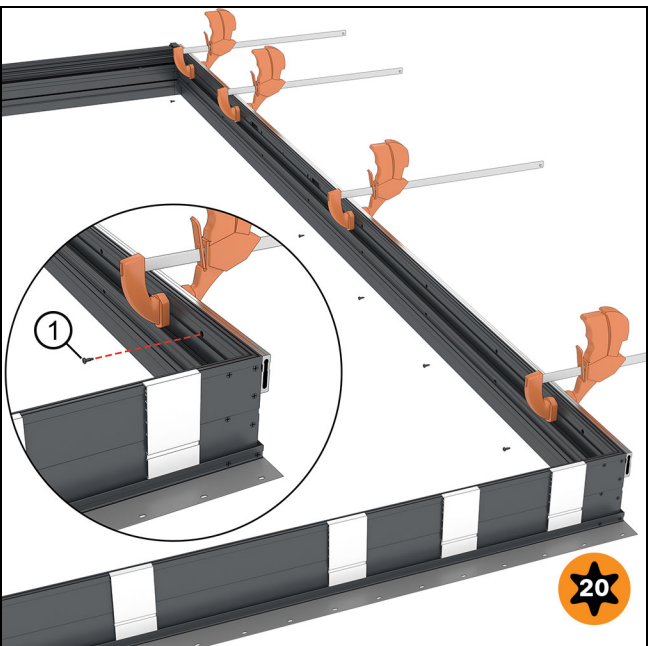

Figure 27
2. Fasten the mull pin to the door using the installation holes. Fasten with #8 x 1/2" self drilling screws. See Figure 27. **Do not** fasten through strike hardware attachment holes.